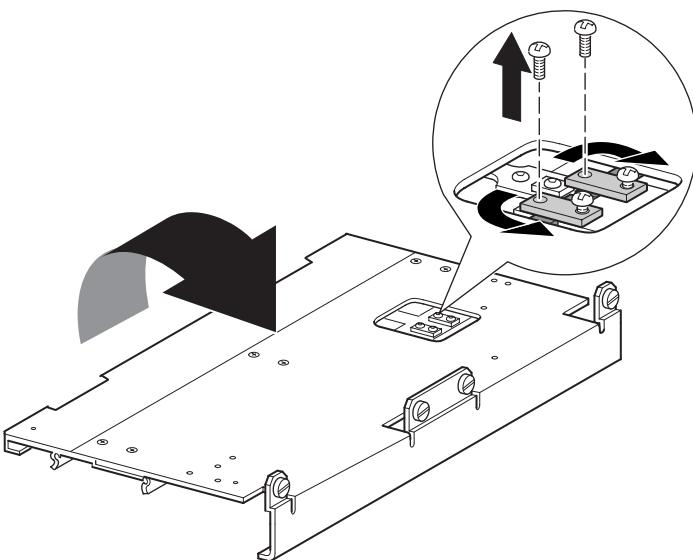

Figure 15: Belt block bracket access cutout
4. Turn the PTM over to access to the belt block bracket access cutout (see Figure 15 on page 37).
5. Remove one screw from each of the two belt block brackets. Loosen the other screw and move each belt block bracket to the side to gain access to the drive belt (see Figure 15 on page 37).